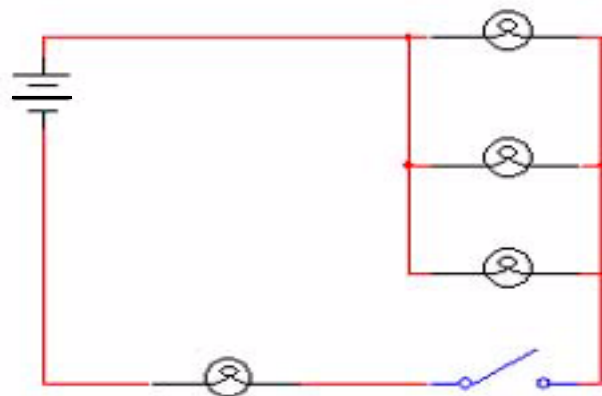

Figure 2.6
- Series/parallel circuits have some sections wired in series and some in parallel. See Figure 2.6.